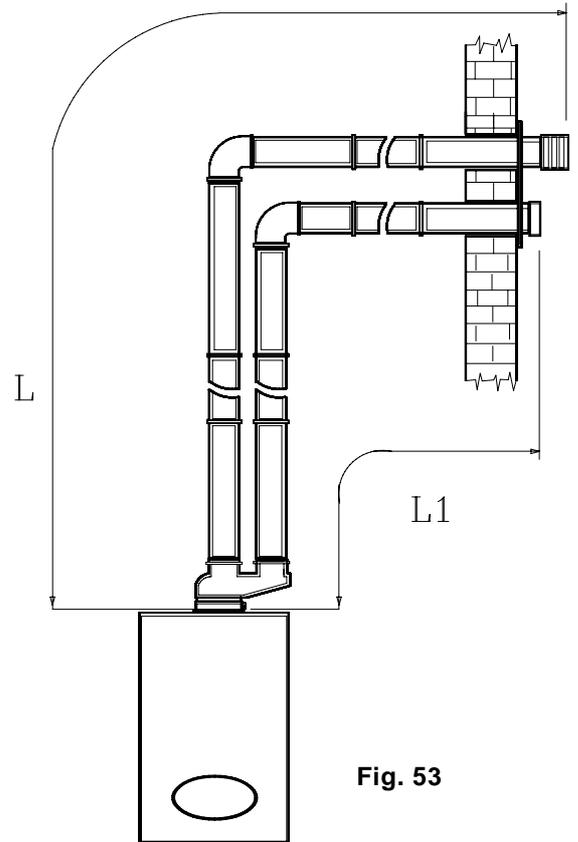

Fig. 53
**11.1.4 Exhaust/suction system with two separate pipes through a single vertical wall ( Fig.53 ).**